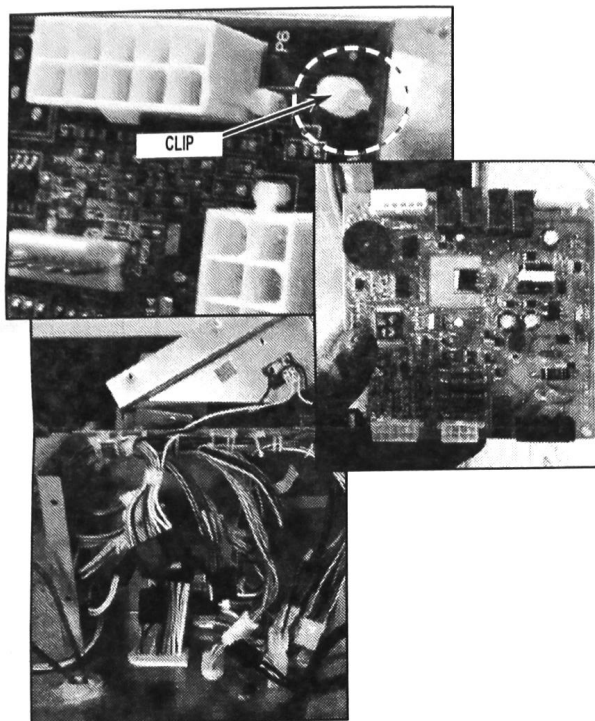

FIGURE 19
24. Remove old HV board by releasing clips holding board to old HV housing and discard board. See Figure 19.